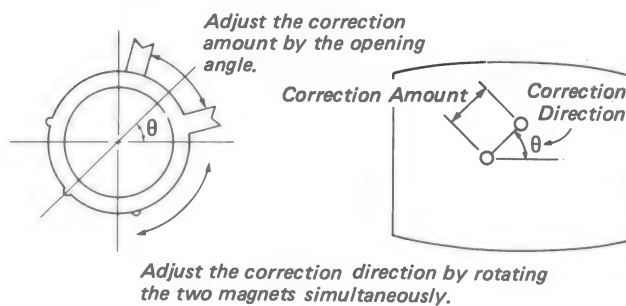

Fig. 3-8
5. Overlap the R and B·G dots in horizontal and vertical directions in the center of the picture using the HMC and VMC magnets (6-pole ring magnets). Adjust the correction amounts of the R and B·G dots by the opening angle of the magnets. Adjust the direction by rotating the two magnets simultaneously. (See Fig. 3-8.)